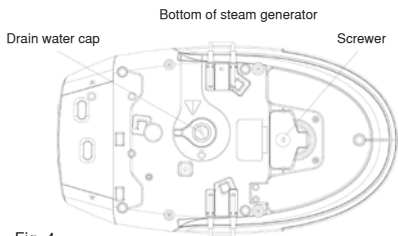

Fig. 4
Open the cap for cleaning the steam generator (see Fig. 4).
3. To remove the mineral deposits collecting at inner steam generator, firstly put the iron horizontally on a level surface, then tilt the steam generator and unscrew the drain water cap with the attached screwdriver, and then drain the steam generator, see Fig. 4.